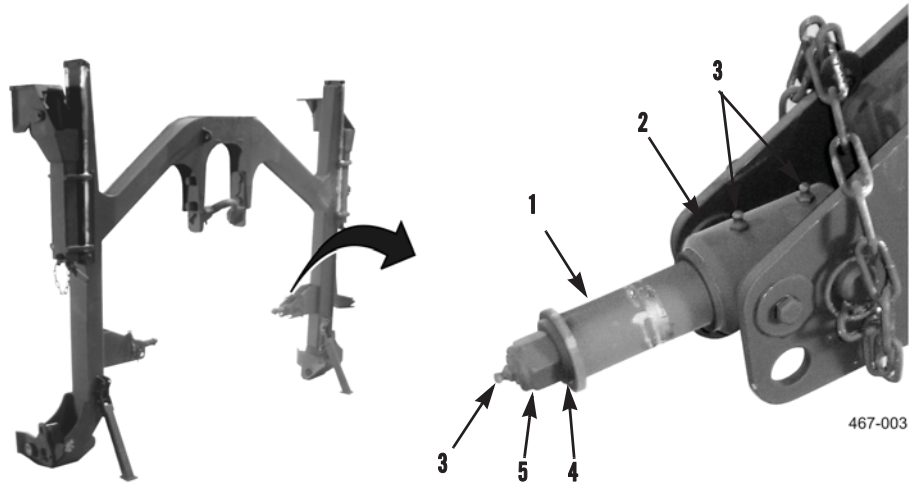

Figure 4. Roller and Grease Fittings.
6. Install roller (Figure 4, Item 1), washer (Figure 4, Item 4), and nut (Figure 4, Item 5) on roller pin (Figure 4, Item 2).
7. Install three grease fittings (Figure 4, Item 3) on roller pin (Figure 4, Item 2).